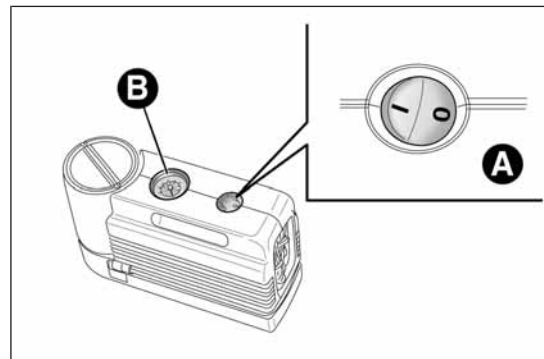
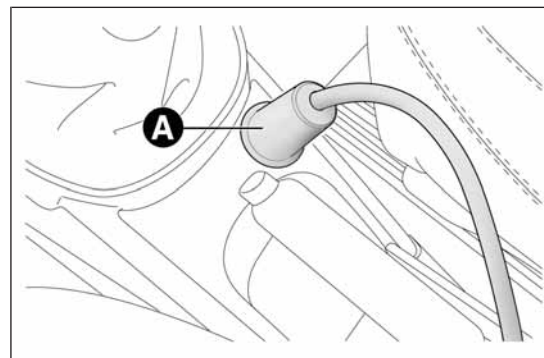

fig. 130
fig. 131
- ☐ make sure that switch A fig. 130 for the compressor is in position 0 (off), start the engine, insert the plug A fig. 131 into the power socket on the central tunnel and switch on the compressor by bringing switch A fig. 130 to position I (on);
- ☐ inflate the tyre to the pressure indicated in the "Wheels" paragraph in the "Technical specifications" section. In order to obtain a more precise reading, check the pressure value on pressure gauge B fig. 130 with the compressor off;